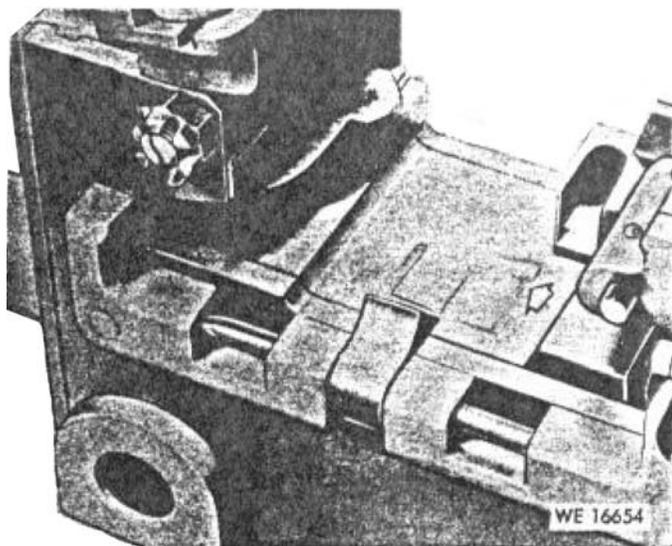

Figure 3-11. Maintenance procedures for determining serviceability of chrome-plated trunnion block with damage exceeding 0.010 inch - NOT acceptable.
(1) Steel trunnion block will NOT be cracked or severely damaged (figure 3-10). Chrome plated trunnion blocks are preferred for Machine Guns, M1919A4 and M37. Weapons with unplated trunnion block will not be replaced unless grooves (damaged areas) exceed 0.010 inch in depth (Figure 3-11) measured from the adjacent flat surface. Serviceability